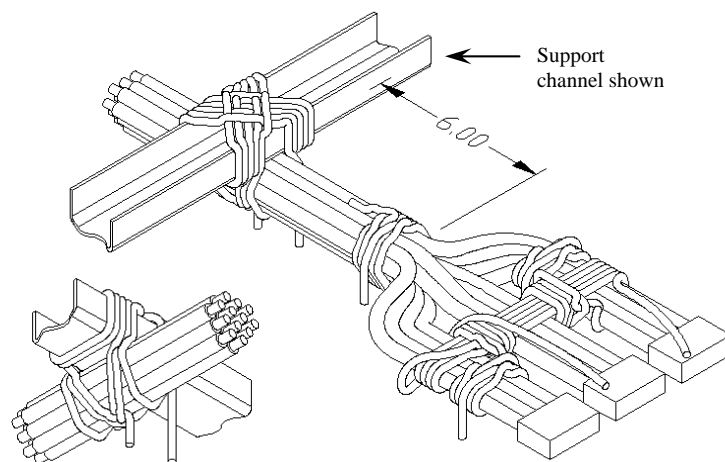

Figure 11: Securing Cables to Supports (optional)
5. If cable supports are provided (optional) wrap cable supports (Figure 11)